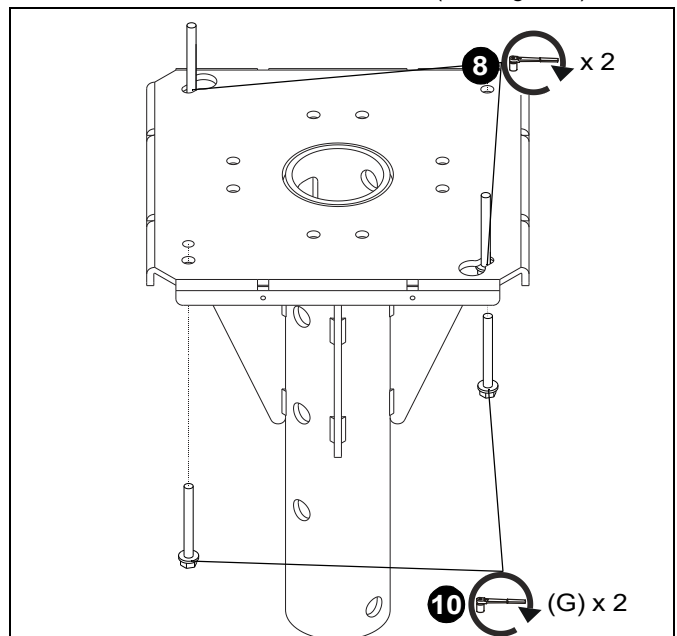

Figure 4
8. Tighten two anchors (G). (See Figure 4)
10. Install two M8 x 75mm concrete anchors (G) through outside holes and into drilled holes. (See Figure 4)